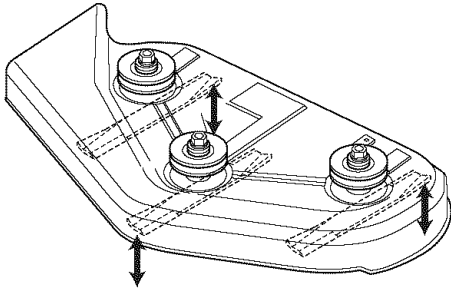

Figure 36. Orient Blades Front-to-Back
1. Turn the blades front-to-back as shown in Figure 36. Measure the distance from the ground to front tip of center blade, and from ground to rear tips of left hand and right hand blades (Figures 36 & 40). Front tips should be 1/8"-1/4" (3-6 mm) higher than rear tips. If not, proceed to step 2.